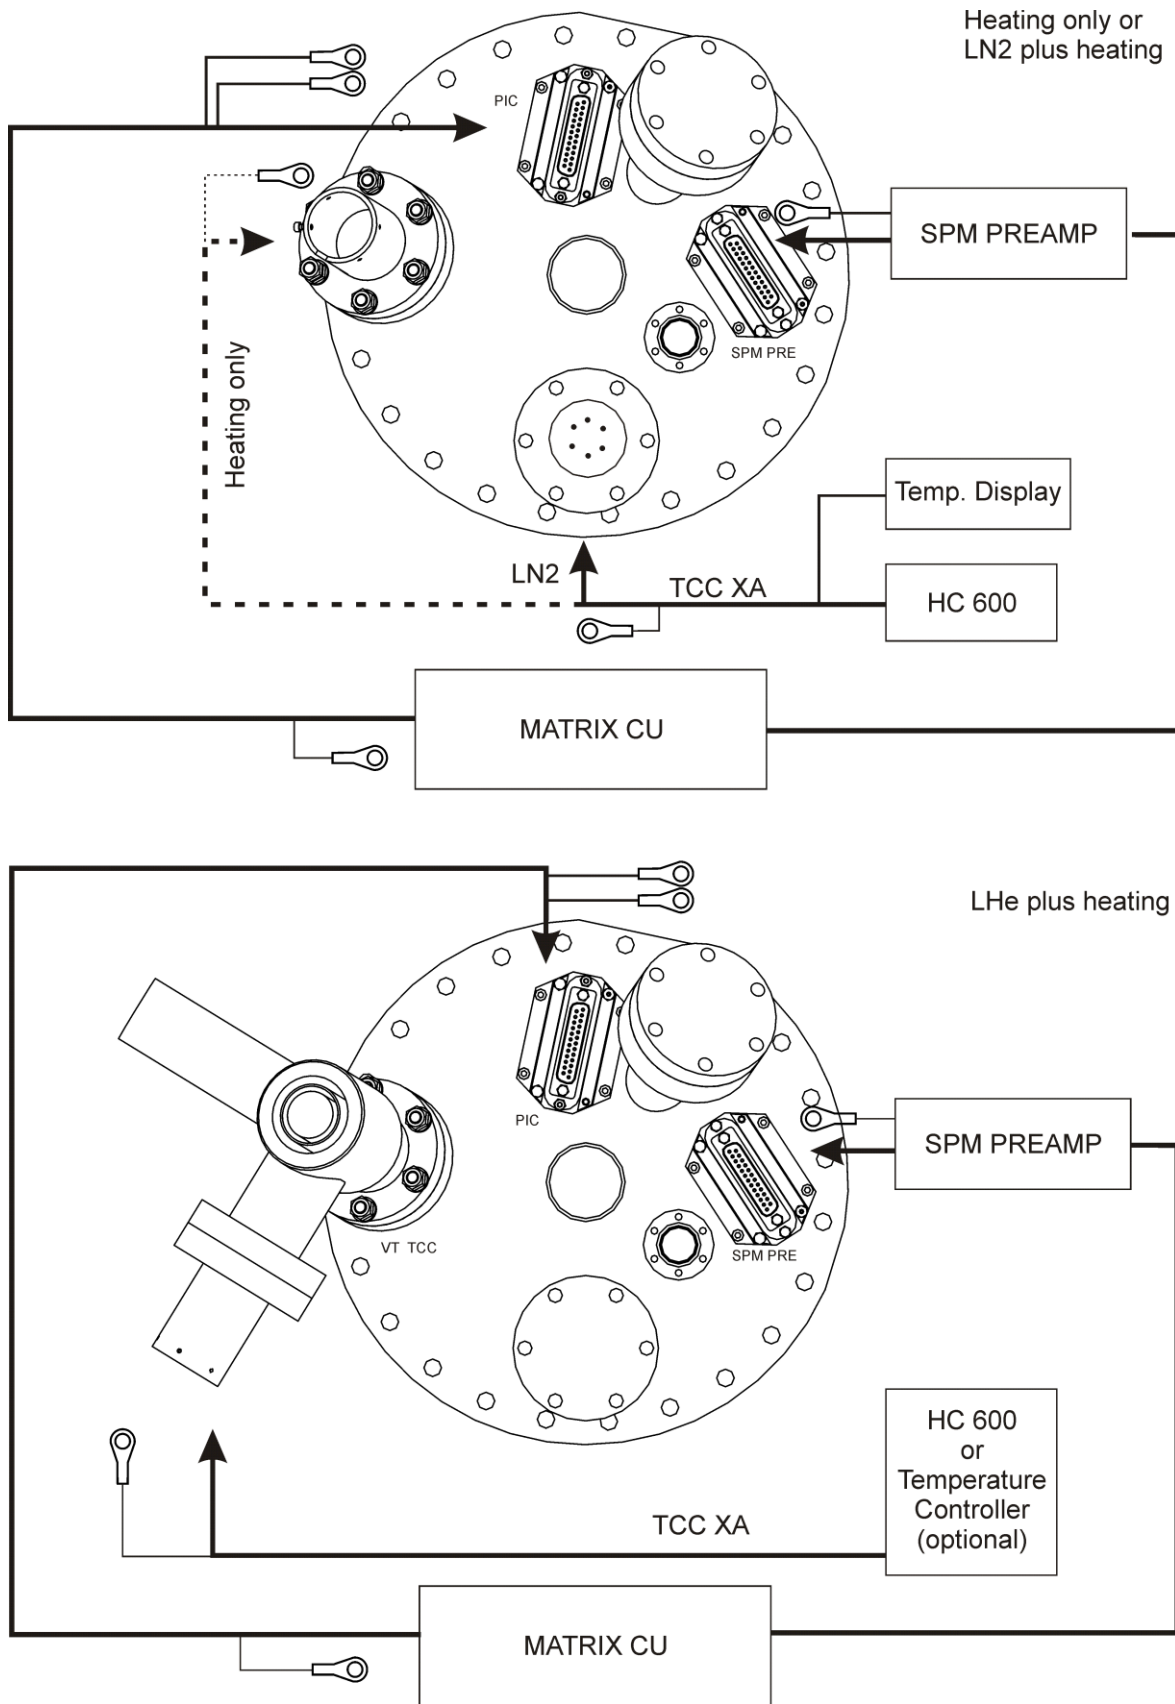

Figure 10. Cabling of the base flange.
- Connect the FT12 connector to the TCC feedthrough on the base flange, see figure 10 on page 32.